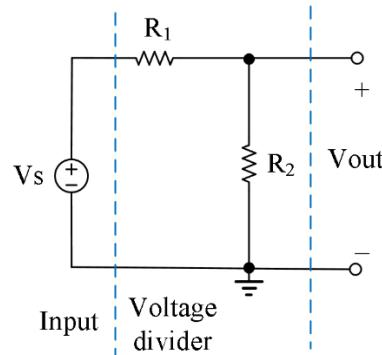
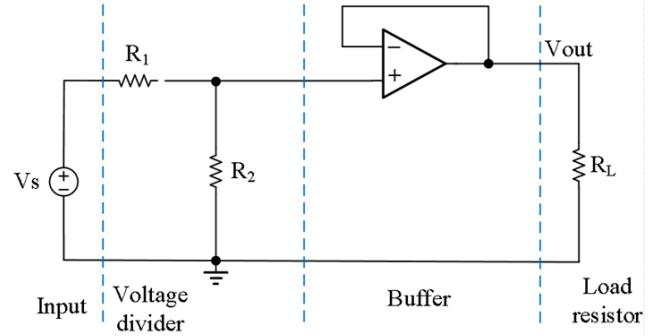

Fig.1 Voltage Divider with  $R_L, R_L = \infty$
Fig.3 Voltage Divider with  $2\text{k}\Omega R_L$ , with buffer
For the voltage divider circuits in Fig.1, Fig.2 and Fig.3,  $V_s = 3\text{Vdc}$ ,  $R_1 = 10\text{k}\Omega$ ,  $R_2 = 10\text{k}\Omega$ .
1. Construct the voltage-divider circuit as shown in Fig.1, in which  $R_L = \infty$ .
3. Based on the circuit in Fig.3, a buffer is inserted between the Voltage Divider and the load  $R_L = 2\text{k}\Omega$ , as shown in Fig.3.